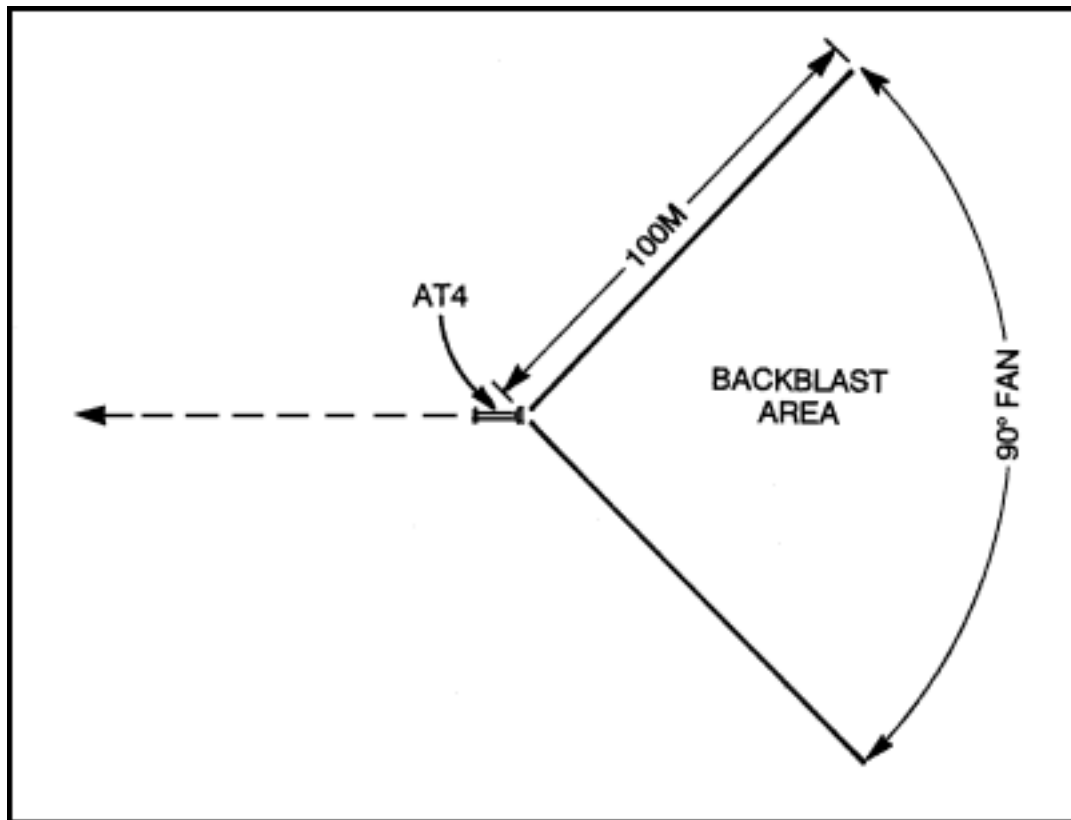

Figure A-2. M136 AT4 backblast area.
(2) **M136 AT4.** Because the AT4 has a closed chamber, it has a slight recoil. When the weapon is fired, pressure builds up in the chamber and ruptures the baseplate. Once the baseplate ruptures, gasses exit from the back of the weapon, forming the backblast. The total backblast area extends 100 meters to the rear of the launcher in a 90-degree fan (Figure A-2). During training, the *entire* backblast area should be marked off limits and kept clear of personnel and equipment. In combat, personnel may remain to the rear of the weapon, but *only* if they are in protected positions. Backblast heat or flying debris could injure the firer and other soldiers anywhere in the backblast area. This weapon must not be fired from an enclosure or in front of a barrier (TM 9-1315-886-12). It may be fired from an enclosure in combat *only when* no other tactical option exists.